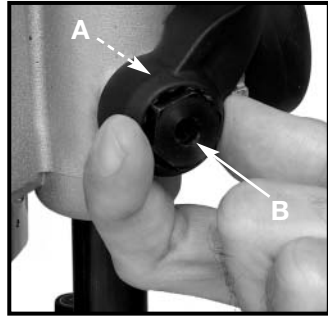
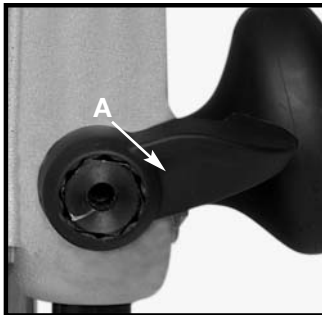
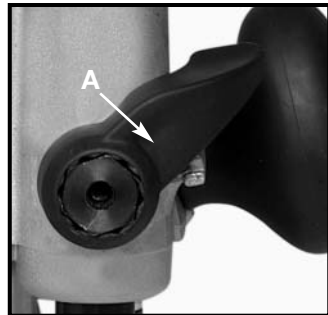
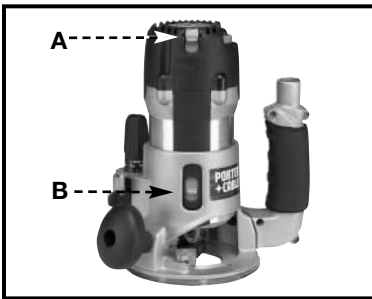

Fig. 16
Fig. 17
Fig. 18
Fig. 19
3. Push in on the plunge locking lever (A) Fig. 16 to expose the head of plunge-locking bolt (B) Fig. 16.
4. While holding plunge-locking lever in (A) Fig. 16, turn plunge-locking bolt in or counterclockwise to turn the plunge-locking bolt out. Turn it one position at a time until proper adjustment is achieved. Proper adjustment is indicated when the plunge-locking lever (A) Figs. 17 and 18 can be locked into the free motion position (Fig. 17), and into the plunge-locked position (Fig. 18).
5. Move plunge locking lever (A) Figs. 17 and 18 halfway between those two positions. Insert the hex wrench through the center of the plunge locking bolt (B) Fig. 17 into adjustment screw. Turn clockwise to tighten.
Two switches (A and B) Fig. 19 turn this tool “ON” and “OFF”. Additionally, the upper switch (A) will automatically turn the tool “OFF” if the tool is placed upside down on a surface.
The lower switch (B) Fig. 19 is convenient for the operator to turn the tool “ON” or “OFF” with the thumb of the left hand while holding the tool (Fig. 16).